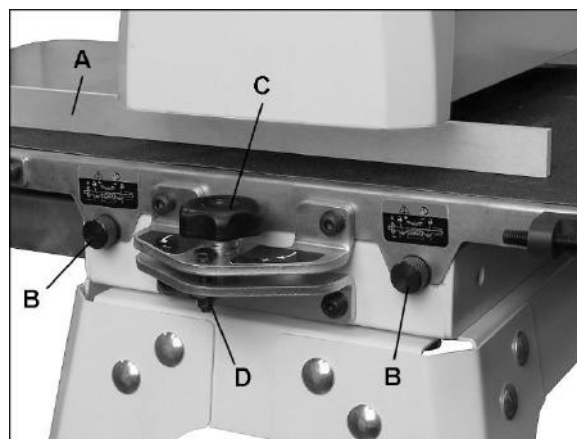

Figure 8-3: drum alignment
3. Insert gauge between drum and conveyor table at outboard side of drum (A, Figure 8-3).
7. Loosen both table locking screws (B, Figure 8-3)
3. If a ridge is visible where the drum overlaps, lower table at outboard end slightly by turning knob (C, Figure 8-3).
Note: When sanding narrow stock (less than 406mm), return conveyor table to parallel position. Turn knob opposite direction until lock nut (D, Figure 8-3) is contacted. The lock nut provides a positive stop for table parallelism.